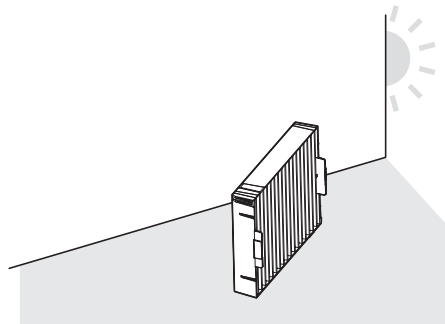

Fig. 2
- Pull out the air filter unit from the tabs on the projector body (c) while slightly pressing the grip on the air filter unit (a) inward as described with the arrow. (Fig. 2)
2) Dry the air filter unit. (Fig. 2)